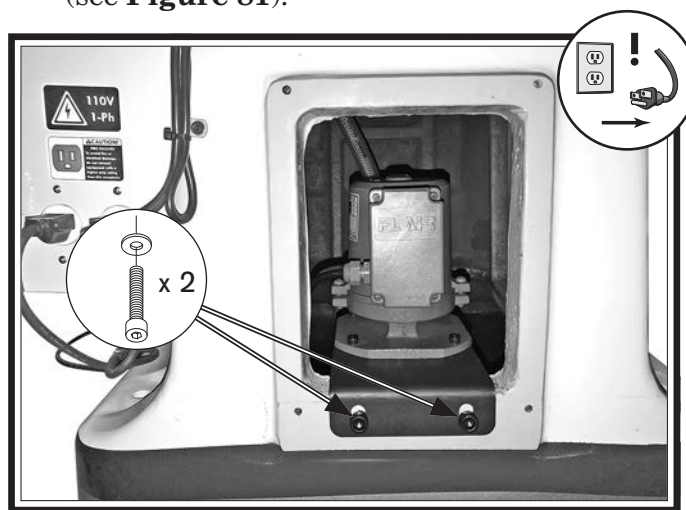

Figure 81. Location of coolant pump.
5. Remove (2) cap screws and flat washers securing pump, and move it out of the way (see **Figure 81**).